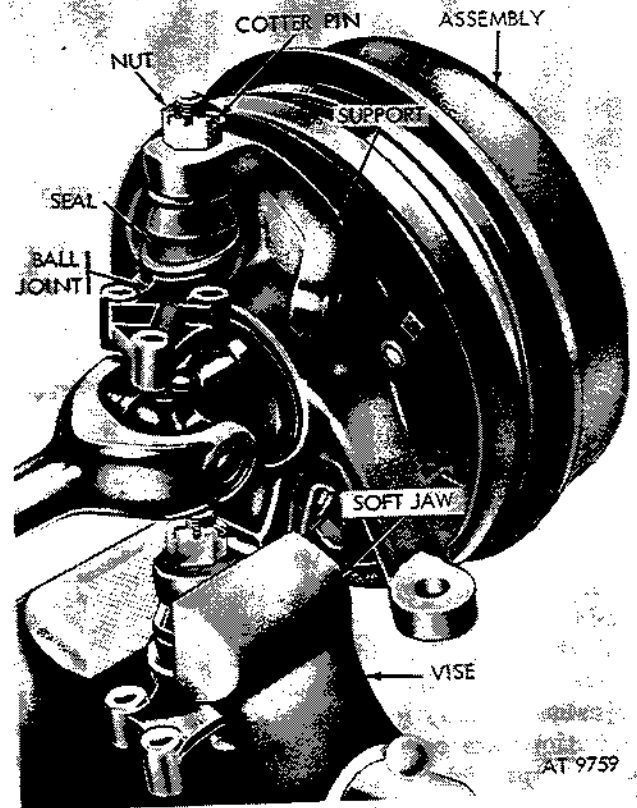

Figure 2-337. Remove lower ball joint from wheel spindle support.
(3) Remove cotter pin and nut securing lower ball joint and seal to wheel spindle support. Remove ball joint (fig. 2-337).